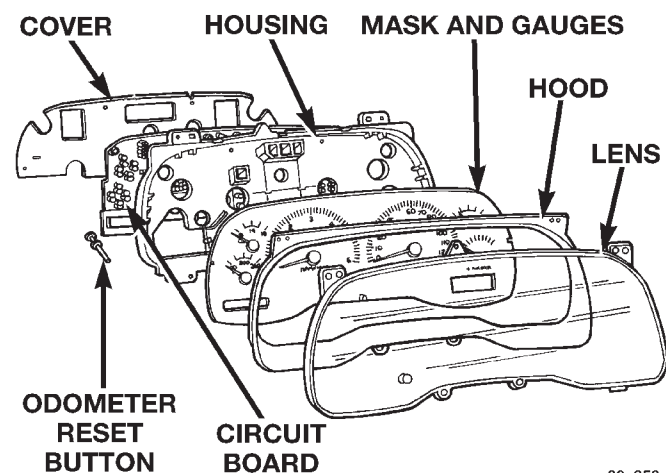

Fig. 5 Instrument Cluster Components
(1) Disconnect and isolate the battery negative cable.
(2) Remove the instrument cluster from the instrument panel. See Instrument Cluster in the Removal and Installation section of this group for the procedures.
(3) Remove the seven screws that secure the cluster lens and hood to the cluster housing (Fig. 5).